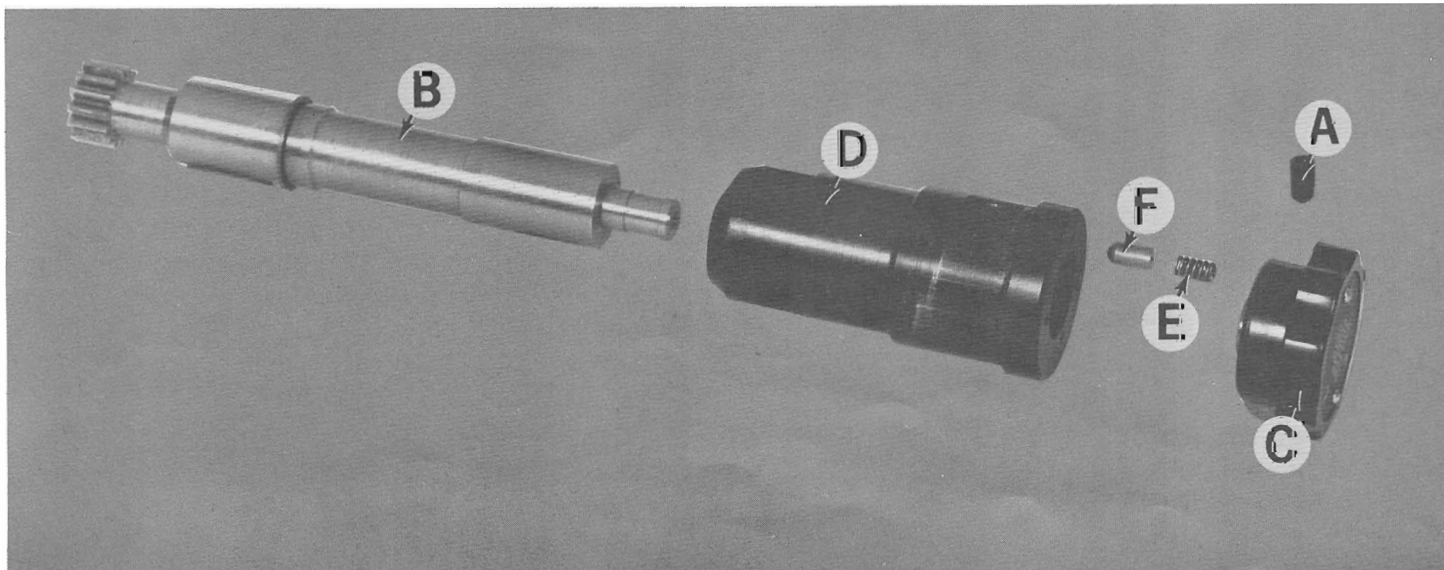
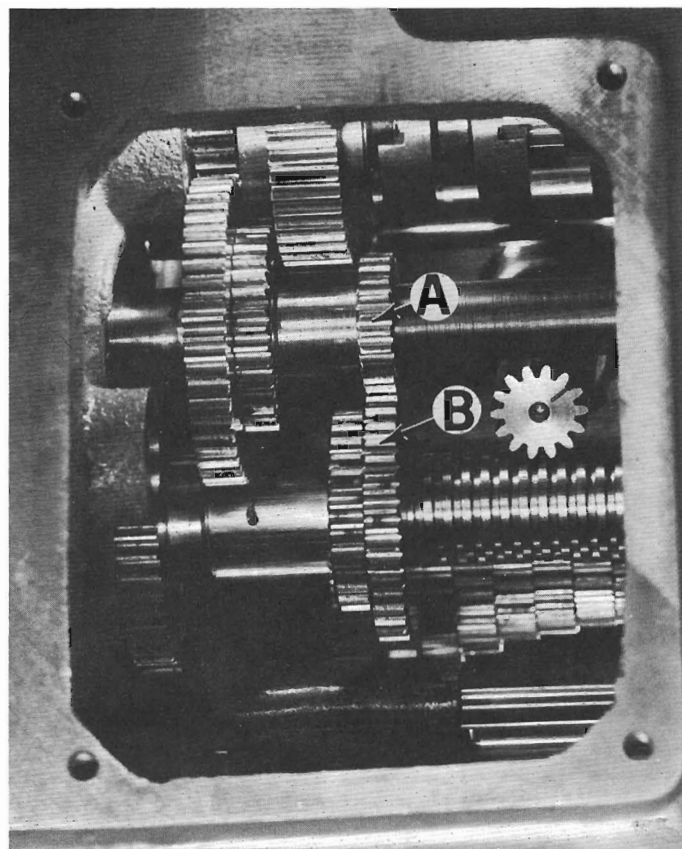

Figure 37 — Pinion Assembly Components
Figure 45 — Gear Position When "Three Change" Handle Is In No. 3 Position
- (A). Remove set screw "A", Figure 37, to remove pinion shaft "B" and handle "C" from bushing "D".
14. For proper operation gears "A" and "B", Figure 45, must be in mesh when "Three Change" handle is in No. 3 position. If this is not the case, loosen set screw "A", Figure 37, position gears "A" and "B", Figure 45, as shown. With plunger "F", Figure 37, in notched position hold against pinion and knob and tighten set screw "A", Figure 37.